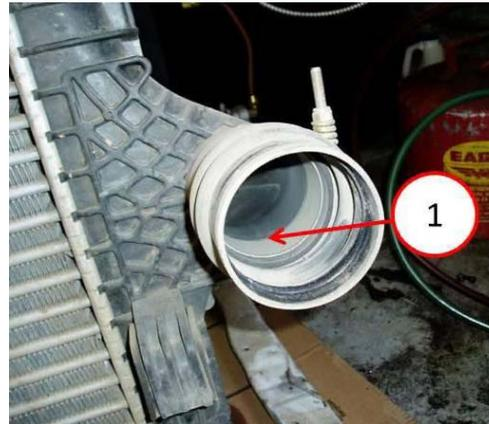
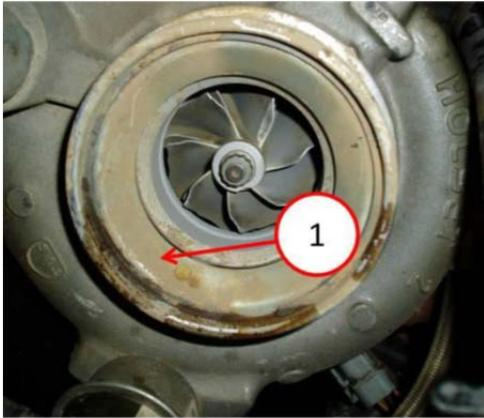

Figure 4: Charge Air Cooler Inlet
Figure 5: Turbo Inlet
5. If the tubes appear to have been cleaned or replaced, you can reach into the intercooler and check for dirt. (Figure 4). Inspect the turbo inlet impeller blades and aluminum housing for sand blasting and/or dust/dirt accumulation. (Figure 5).